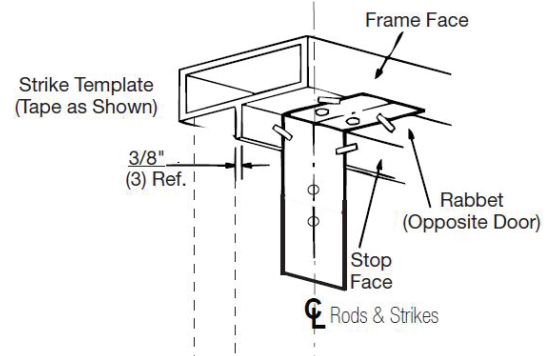

Figure 8
- Locate the top latch and strike template. See Figure 8 and the template for correct positioning.